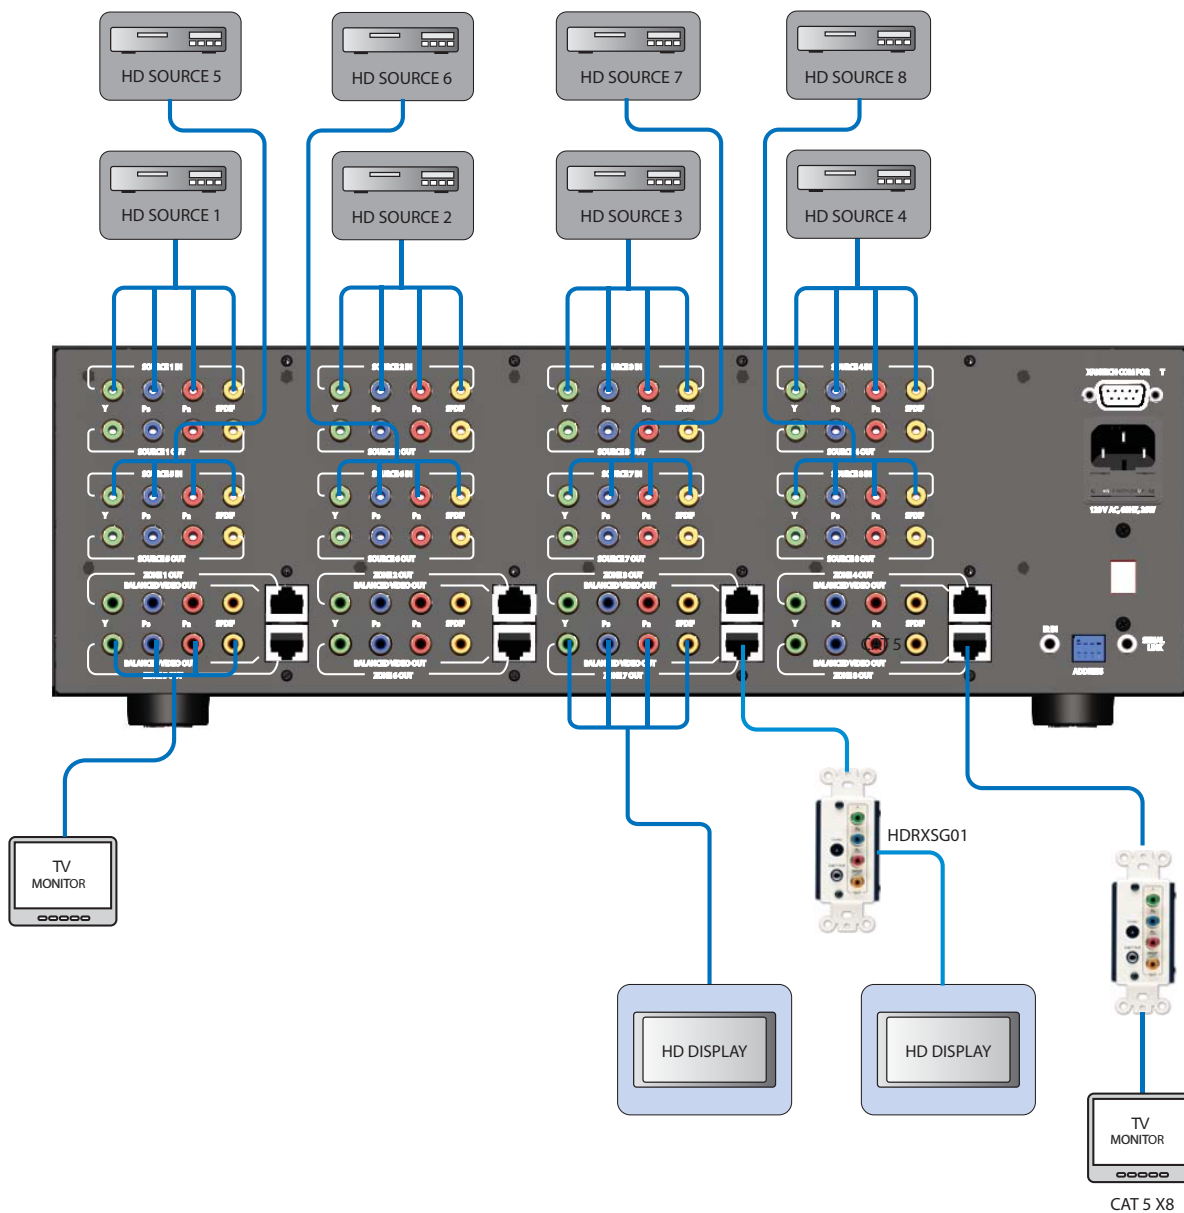

FIGURE 1
- [1] Connect the High-Definition Source to the HD88CC5 or HDTXSG01. Figure 1 below shows an HD88CC5 (video matrix transmitter) connected to the HDRXSG01 (receiver).